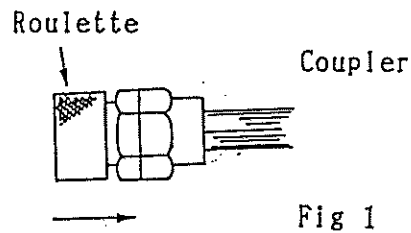

Fig 1
- ① Pull the knurlings part on the end of gas sampling tube toward arrow mark by holding it with fingers. (Refer to fig1)